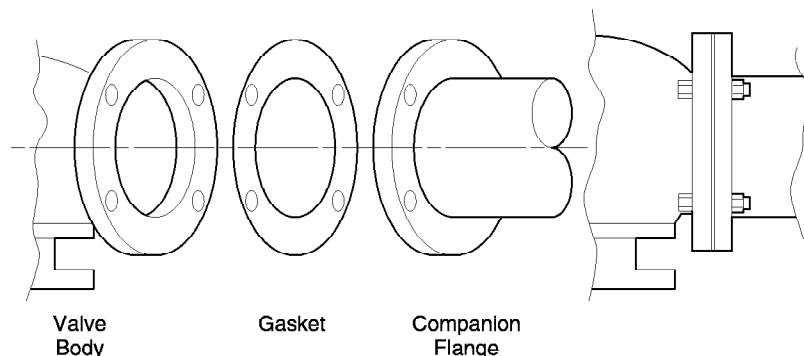

Figure-3 Installation of Flanged End Valves.
4. See Figure-3 for flange and flange bolt details. Figure-3 also shows the proper way a flanged valve should be mounted.